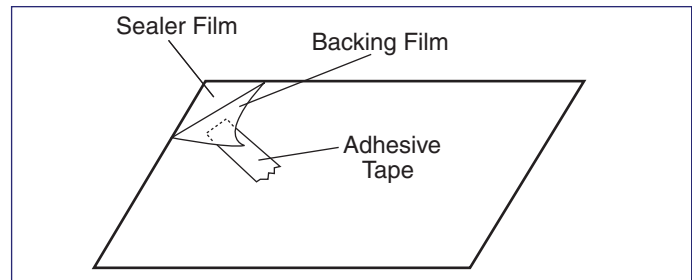

Figure 4-9. Sealer Film
1. Put the adhesive tape on the backing film of the sealer film as shown in Fig. 4-9.